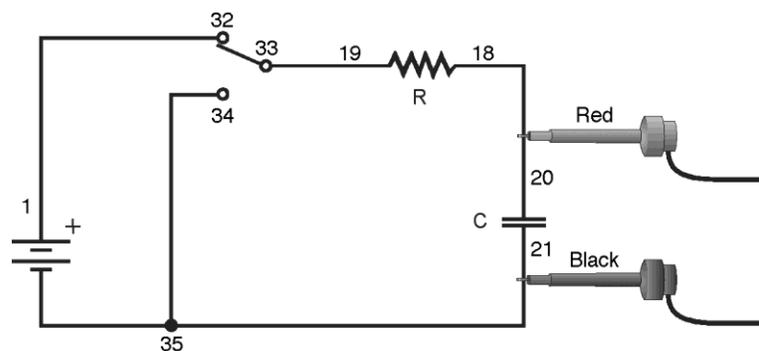

Figure 1
1. Connect the circuit as shown in Figure 1 above with the 10 μF capacitor and the 100 $\text{k}\Omega$ resistor. Record the values of your resistor and capacitor in your data table, as well as any tolerance values marked on them.
6. Set the switch to the closed position illustrated in Figure 1. Wait at least 10 seconds to ensure the capacitor is fully charged.